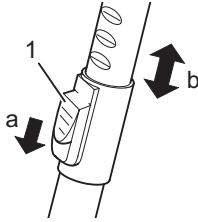

Fig. 4
4. Adjust the length of the telescopic tube. To do this, press the telescopic tube lock (Fig. 4/1) down (Fig. 4/a). Then extend the telescopic tube to the desired length (Fig. 4/b). Let go of the release catch while pulling until it locks in place. You will hear a distinct click.